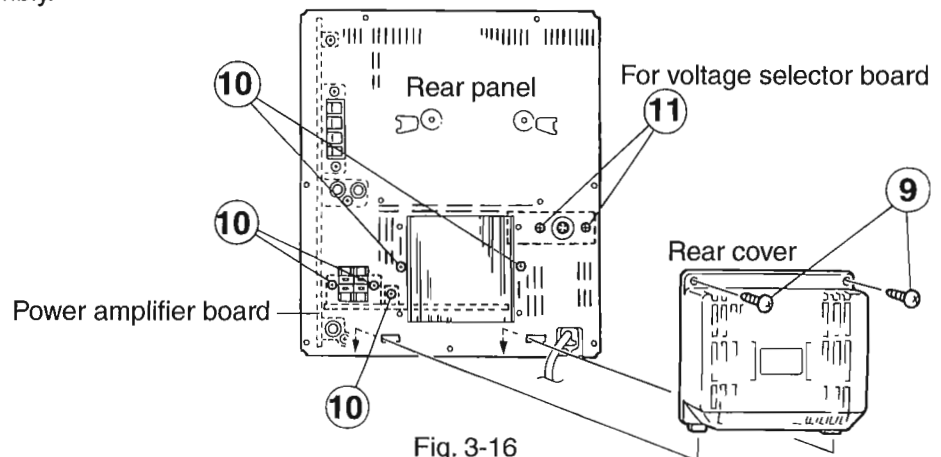

Fig. 3-16
■ Removal of the Power Amplifier Board (See Figs. 3-16)
5. Remove the two screws ⑨ fastening the rear cover to the rear panel assembly and then remove the rear cover.
6. Remove the five screws ⑩ fastening the power amplifier board to the rear panel assembly.
7. Remove the two screws ⑪ fastening the voltage selector board to the rear panel assembly.